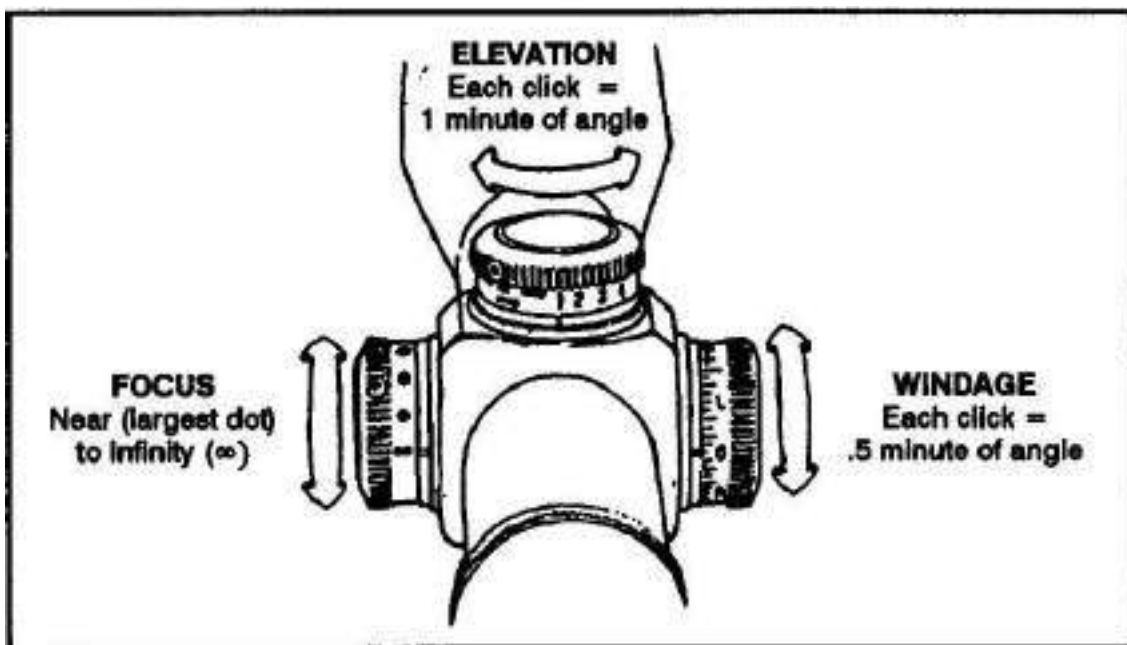

Figure 2-18. Focus, elevation, and windage adjustment dials.
(1) Focus adjustment dial. The focus adjustment dial (Figure 2-18) is on the left side of the scope barrel. This dial has limiting stops with the two extreme positions shown by the infinity mark and the largest dot. The focus adjustment dial keeps the target in focus. If the target is close, the dial is set at a position near the largest dot.
(2) Elevation adjustment dial. The elevation adjustment dial (Figure 2-18) is on top of the scope barrel. This dial has calibrated index markings from 1 to 10. These markings represent the elevation setting adjustments needed at varying distances: 1 = 100 meters, 3 = 300 meters, 7 = 700 meters, and so on. Each click of the elevation dial equals 1 minute of angle.
(3) Windage adjustment dial. The windage adjustment dial (Figure 2-18) is on the right side of the scope barrel. This dial is used to make lateral adjustments to the scope. Turning the dial in the indicated direction moves the point of impact in that direction. Each click on the windage dial equals .5 minute of angle.